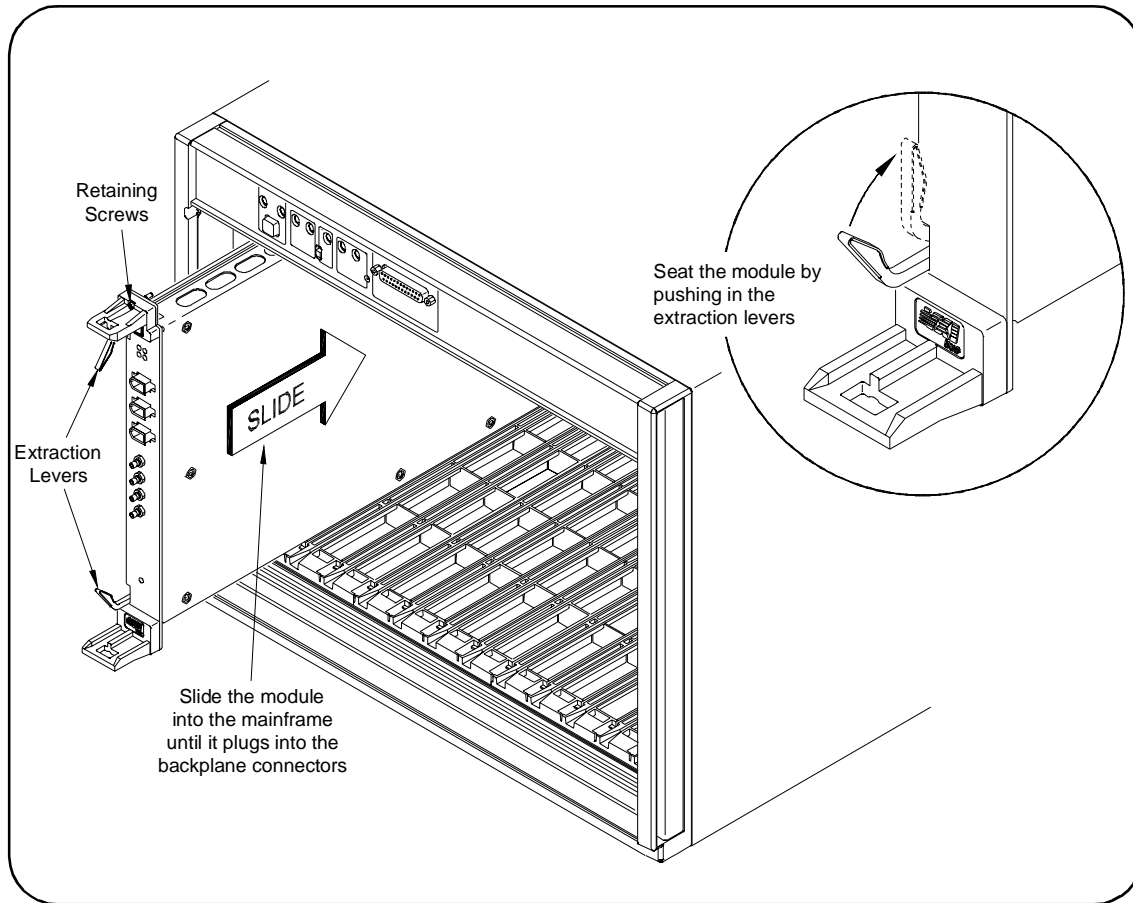

Figure 2-6. Installing the E8491B in the VXI Mainframe.
2. Insert the E8491B into mainframe slot 0 by aligning the module with the guides inside the mainframe (Figure 2-6). Slowly push the module into the slot until it seats in the backplane connectors. It may be necessary to pull out (not remove) the retaining screws in order to seat the device securely in the connectors.